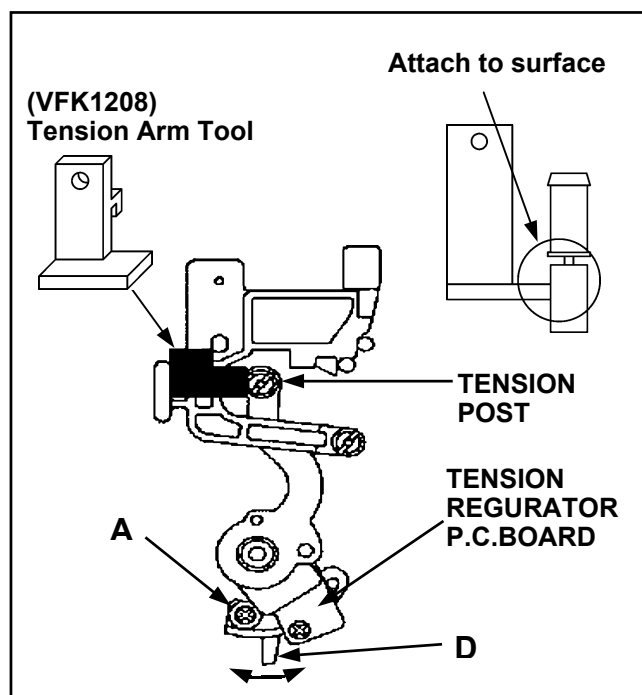

Figure 1-7-2
4. Set the VFK1208 (black with hole) at the position as shown in figure 1-7-2.
7. Loosen the screw (A) and move the lever (D) with tweezers to adjust the sensor position so that the DC voltage at Test Point is within the specification.